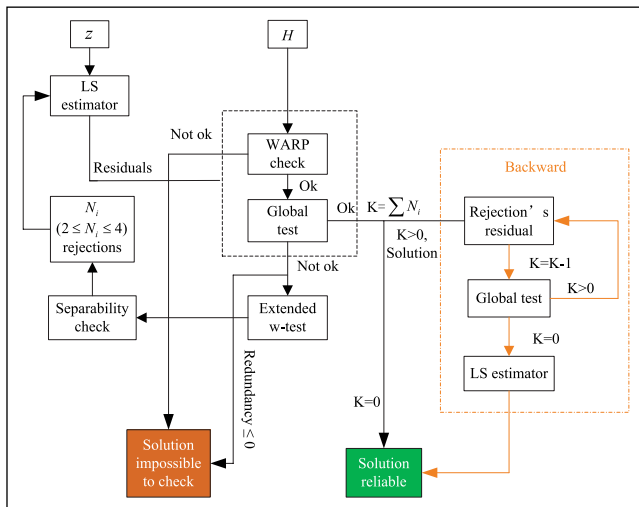

Figure 1. Scheme of the extended RAIM technique for multiple outliers
where  $\Delta Y_{free}$  is the residual vector of the initial outlier-free constellation obtained by the forward process. The test statistic is calculated according to (11) and (4) and the global test is performed. If the statistic does not exceed the global threshold, this flagged outlier will be recovered as a good measurement. After all the flagged outliers are confirmed, the final outlier-free constellation is obtained and the LS estimation is performed as the final fixed solution of this epoch. The scheme of the extended technique is shown in Fig. 1.